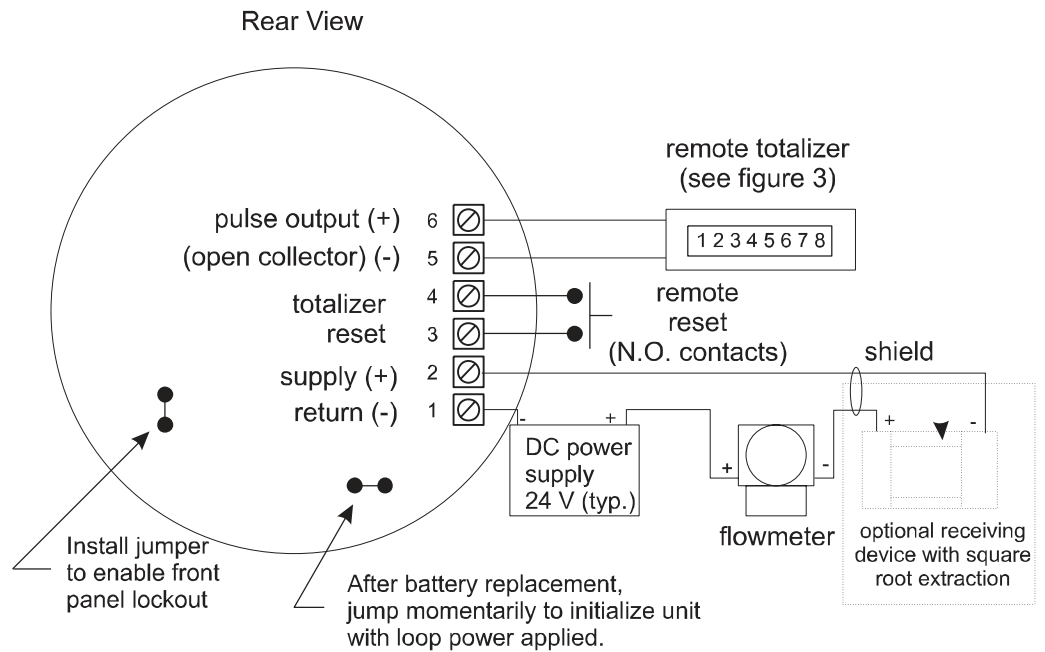

Figure 2
**NOTE:** A hardware jumper menu lockout is also available (see figure 2). The hardware jumper does not inhibit contact closure reset at terminals 3 and 4.